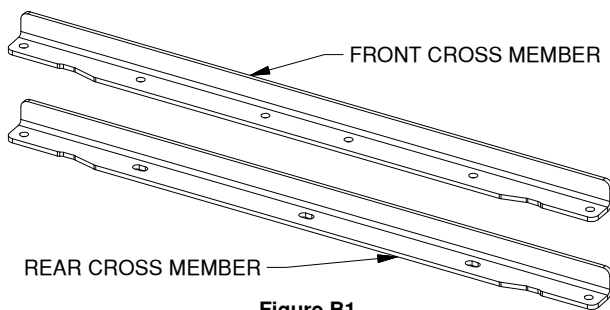

Figure B1
- 1. Place the front and rear cross members.** Locate the front and rear cross members, see Figure B1. Place them in the gap between the bed and the frame directly above the axle, shown in Figure B2. Slide the cross members across the frame until they span both frame rails. Push the front cross member forward and the rear cross member back until they are against the bed braces. The flange of the front cross member with the holes must be toward the rear of the truck. The flange of the rear cross member with the holes must be toward the front of the truck.